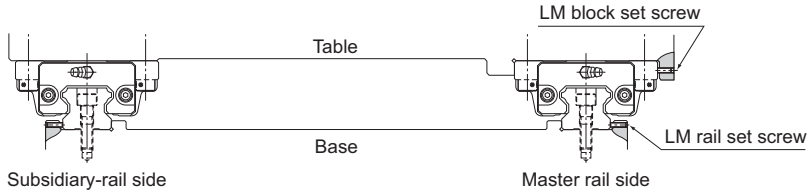

Fig.5 When an Impact Load is Applied to the Machine
(1) Gently place the table on the LM blocks and temporarily fasten the mounting bolts.
(2) Press the master side LM blocks to the side reference surface of the table using set screws and position the table. (See Fig.5 on **B1-91**.)
(3) Fully fasten the mounting bolts on the master side and the subsidiary side to complete the installation.